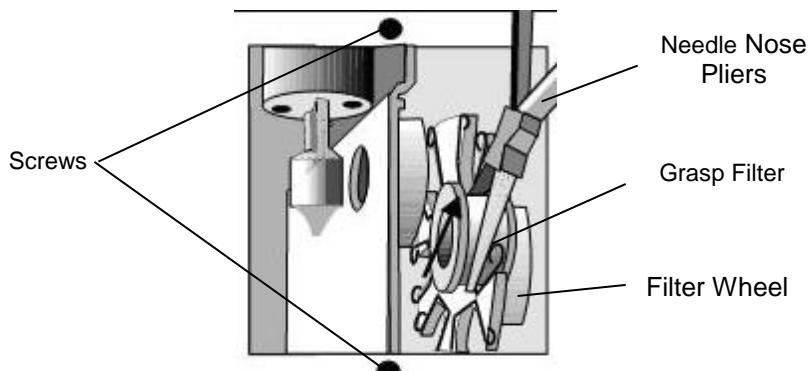

Figure 8-10: Removing a Filter
1. Remove the filter access panel from the rear of the DS2 by unscrewing the two screws (one at the top and one at the bottom of the filter access panel). The filters are mounted on the filter wheel as shown in Figure 8-10.